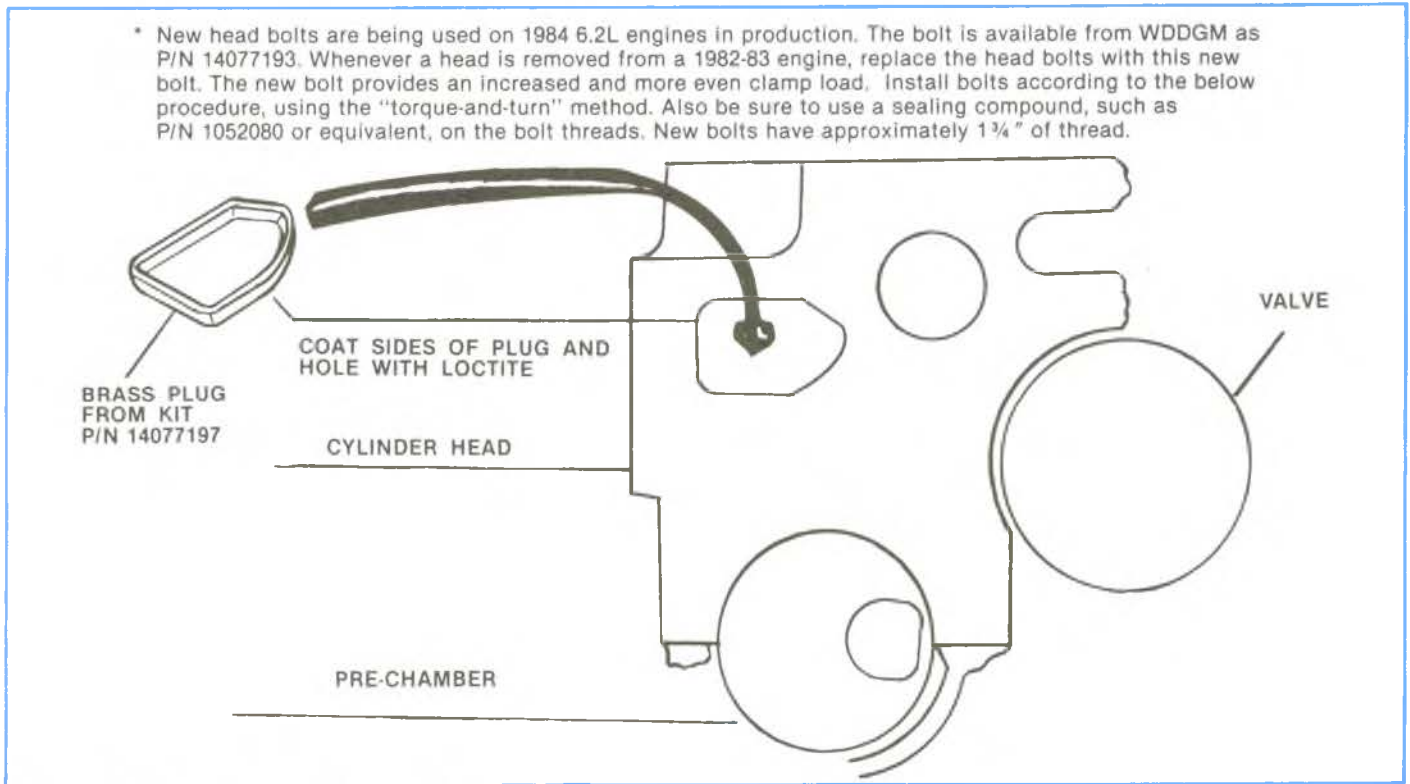

Figure 2-15, Installing Brass Plug.
External engine coolant loss on the 6.2L Diesel has generally been from the rear lower corner on the left hand cylinder head and the front lower corner on the right hand cylinder head. This coolant loss condition is the result of inadequate sealing around the core cleanout hole in the cylinder head. (Figure 2-15)
5. **INSTALLATION OF BRASS PLUG IN CYLINDER HEAD COOLANT CORE HOLE. (See Figure 2-15).**